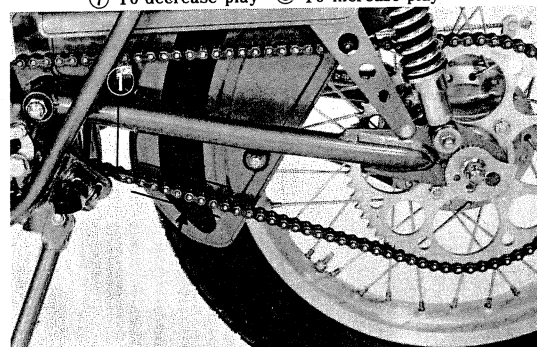

Fig. 10 ① Drive chain
- 1) Check the tension of the drive chain. This is done by moving either of the top or bottom side of the chain up and down with fingers midway between the sprockets. Drive chain tension should be adjusted to allow approximately $\frac{1}{4}$ " inch vertical movement at this point. (Fig. 10) Rotate the rear wheel and check drive chain tension throughout its length.